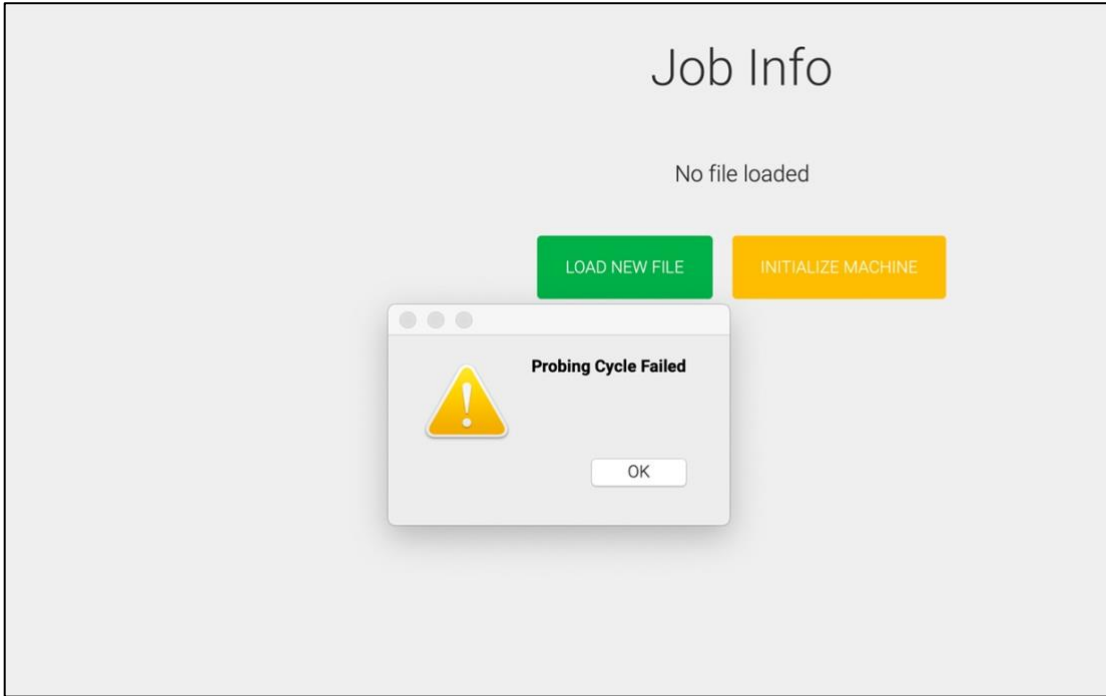

Figure 30
11. If you receive an error message, see **Fig. 30**, repeat steps 1–10 to run a new probing sequence.